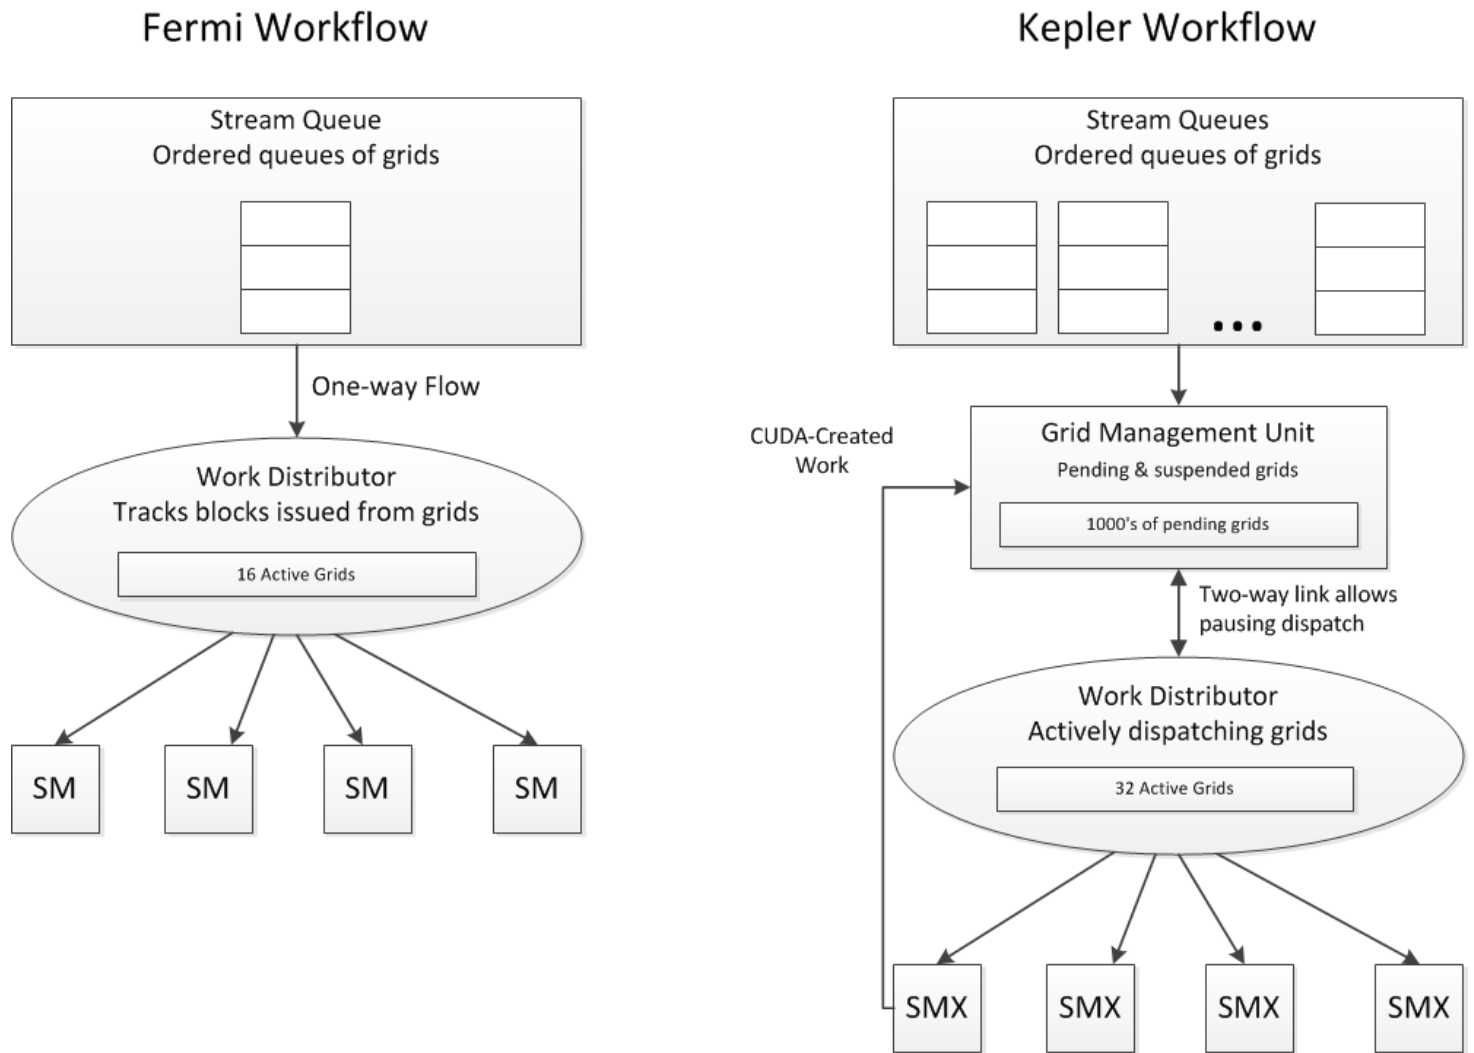

Figure 10. Grid Management Unit
- Figure 10. Grid Management Unit